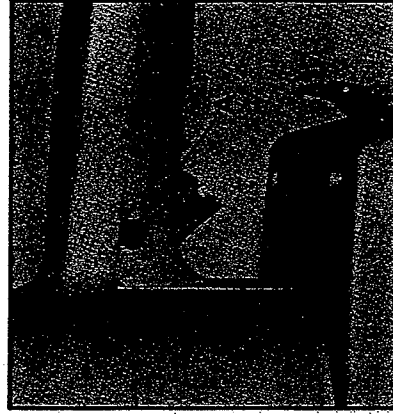

Fig. 5
This sander is equipped with a trigger type switch having a locking button (A) Fig. 5, on the left side of the handle. The motor is started by depressing the trigger. It is stopped by releasing the trigger. If it is desired to keep the motor running without holding your finger on the trigger, depress the trigger, push in on the locking button and, while holding button in, release trigger. To release locking button, depress trigger and release.